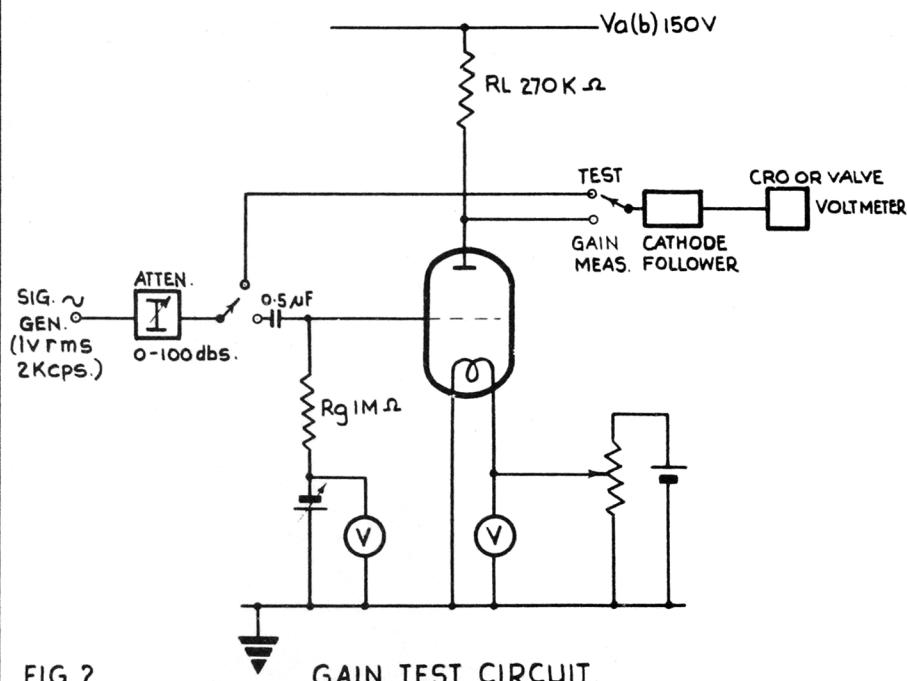

FIG.2.
4. A typical circuit for the measurement of voltage gain is shown on page 6, Fig.2.